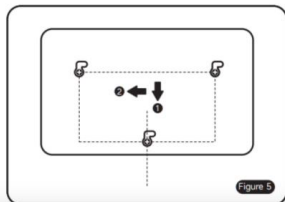

Figure 5
5. Align the screw hole of the product pendant with the screw head and snap it into the pendant limit groove. (Figure 5)